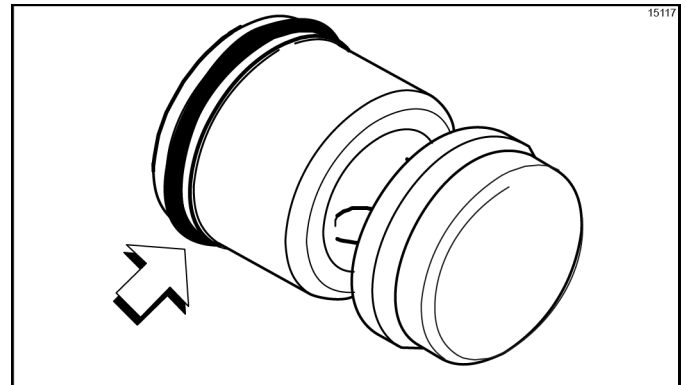

Figure 6-31
2. Assemble the piston. Slide the red O-ring into the groove of the piston. Do not lubricate the O-ring. (See Figure 6-31.)